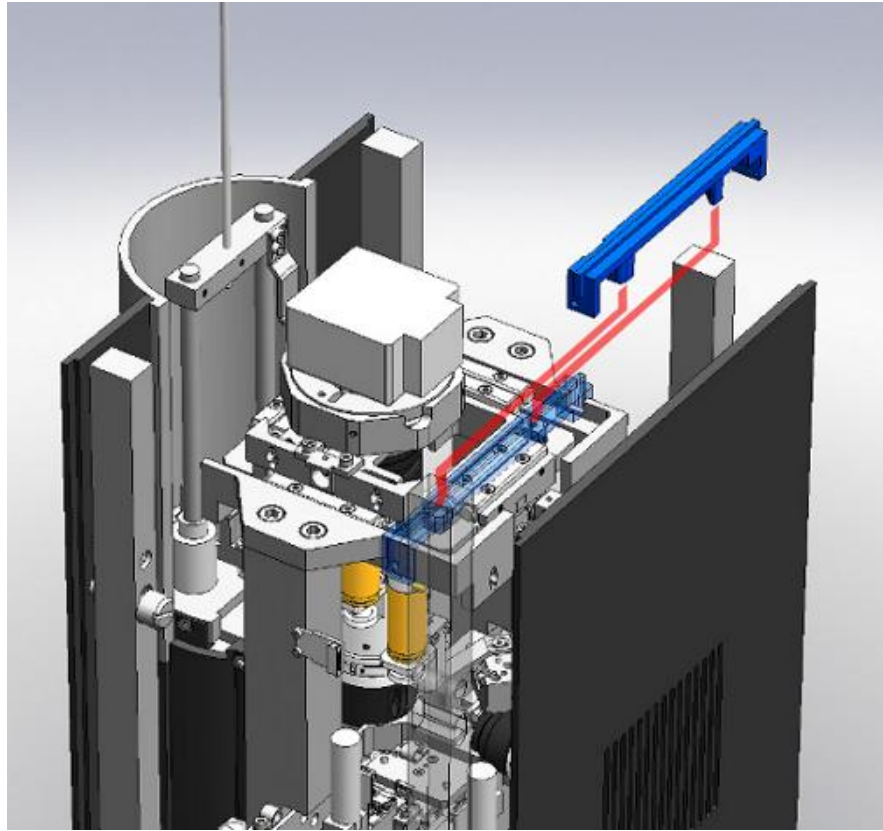

Fig. 2-12. Installing bracket
2. Insert the bracket of the carriage behind the videomicroscope (see Fig. 2-12). Readjust the carriages, if necessary.